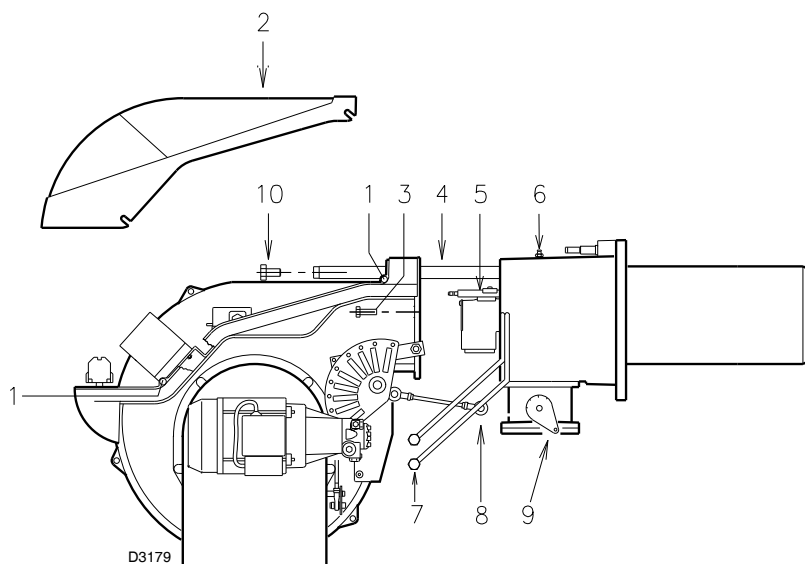

Fig. 44
Open the burner and make sure that all components of the combustion head are in good condition, not deformed by the high temperatures, free of impurities from the surroundings and correctly positioned. If in doubt, disassemble the elbow fitting 5)(Fig. 44).
- Loosen screws 1) (Fig. 44) and withdraw the cover 2).